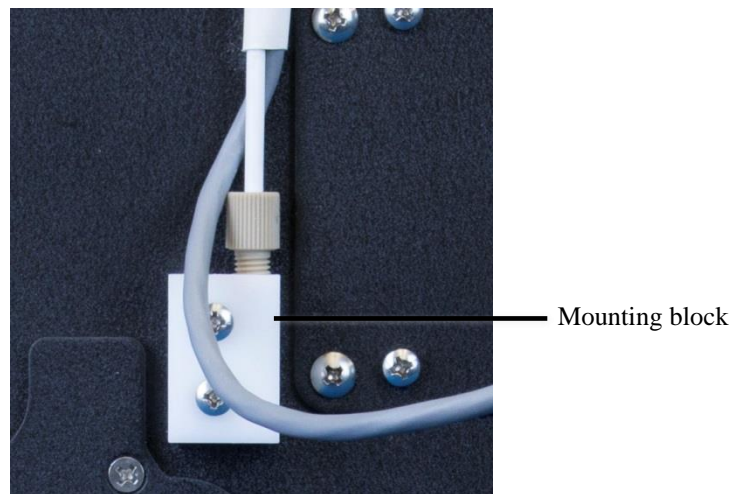

Fig. 33: Removing the rear cable screw
7. Tighten the finger-tight knurled screw that attaches the rear cable to the mounting block (→ Fig. 33, page 70).
7. Loosen the finger-tight knurled screw that attaches the rear cable to the mounting block on the fraction collector rear panel (→ Fig. 33).